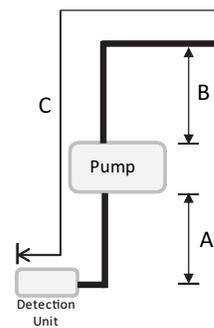

Fig. 2 – Maximum Lengths
The float switch in the detection unit also prevents overflow and can act as a safety device by shutting down the system. The detection unit comes with normally closed (NC) alarm contacts (user optional, but recommended). The normally closed alarm contact is a dry contact rated for 8 amps at 250 volts. In the event of a problem such as a clogged drain or pump discharge line, the alarm contact can be wired to shut down the entire system. The condensate pump provides 10 ft. (3.0 m) maximum suction lift (A)-Fig. 2.